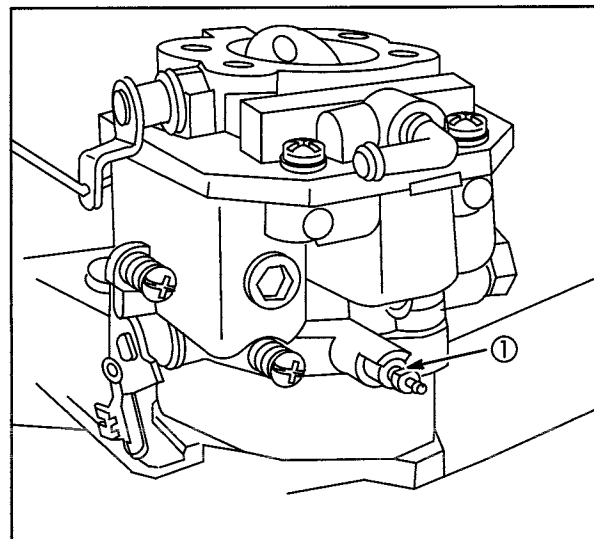

Fig. 7
1. Turn idle mixture screw (1), **Fig. 7**, **CLOCKWISE** until it just seats. **DO NOT FORCE**.